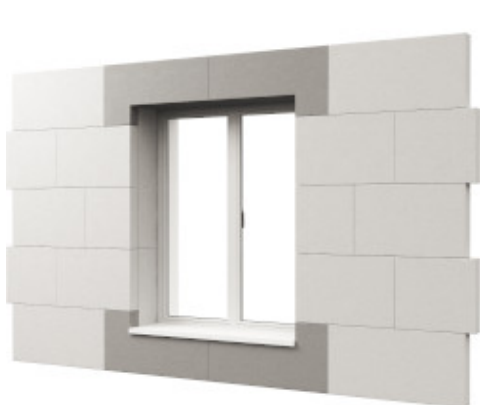

Fig. 1
- Whole panels should be used around door and window openings and trimmed to suit (Fig. 1)